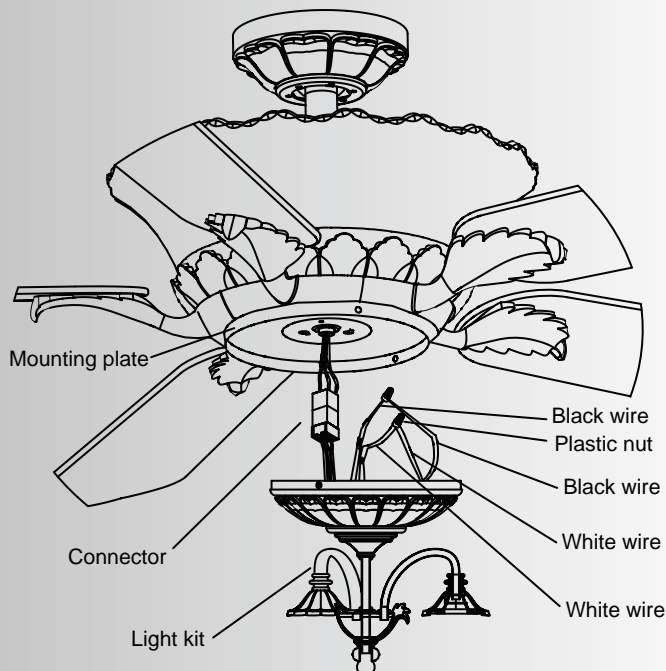

Fig. 2
2. You can find total 4 pcs plastic nuts preinstalled on the end of the black and white wires coming from the switch housing cover and light fixture. Remove the plastic nuts first, and twist the bare section of same color wires into one body, then place the plastic nut on it. Finally match up the color on the side of the connector and push them together until the snap engages. (Fig. 2)